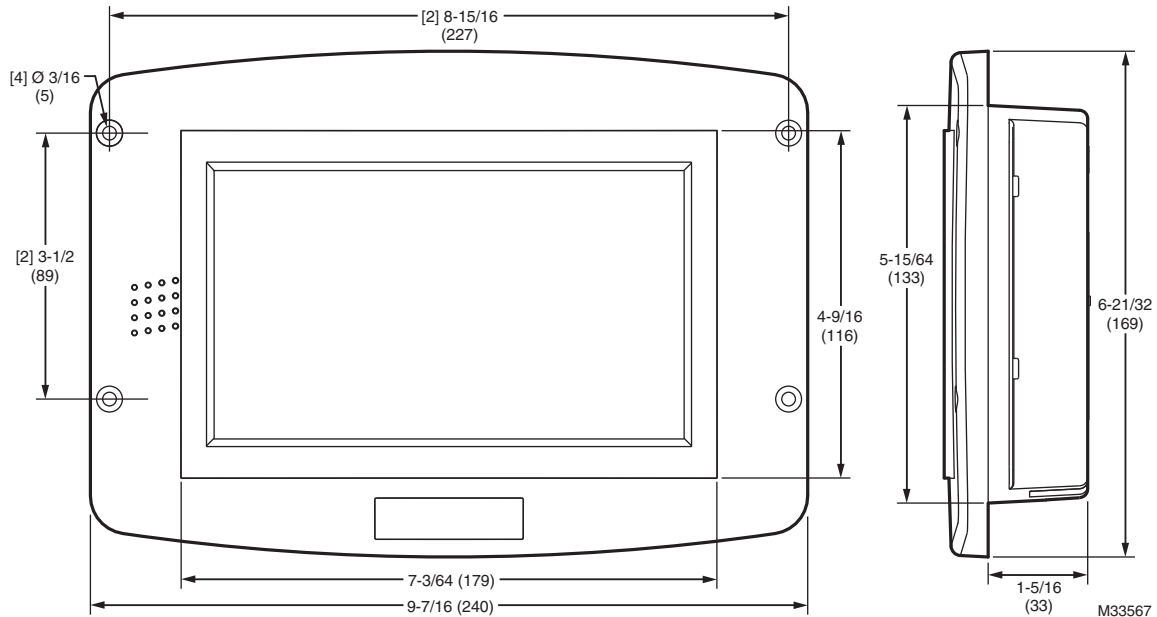

Fig. 1. S7999D dimensions in in. (mm).
**Dimensions:** See Fig. 1
2. Provide an opening in the panel door 8" wide X 5 1/2" high (for front panel mount) or 7 1/8" wide X 4 11/16" high (for rear panel mount). See Fig. 1 or use cutout templates provided in Fig. 129 and Fig. 130.